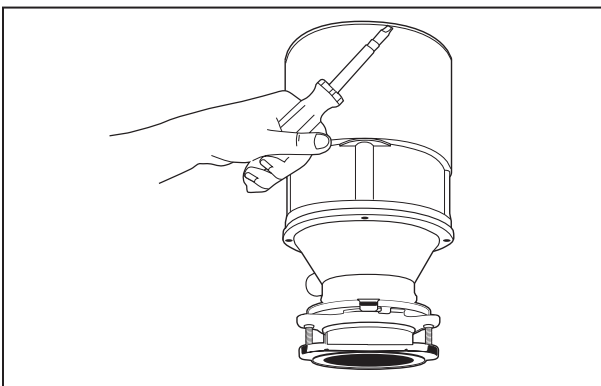

Figure 4.15
4. Place edge of flathead screwdriver between lower end frame and stator; tap end of screwdriver with rawhide mallet to separate lower end frame (see Figure 4.15).